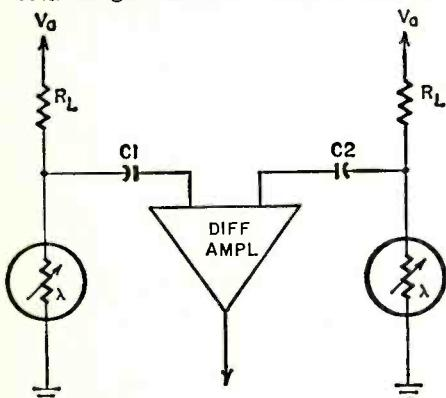

Fig. 2—Dc voltage in photocell circuit from sunlight is blocked by C1 and C2.
Voltage generated in the photodiode circuits due to continuous light (sunlight, car headlights, etc.) is eliminated by capacitors C1 and C2 between the differential amplifier and photoresistor voltage divider (Fig. 2). Interfering illumination of 120 Hz (100 Hz in Europe) is filtered after the signal voltage is amplified. To operate the photoresistors in a fixed region of their response curve, a small "bias" lamp (5) shines on them. This lowers sensitivity, but improves accuracy.